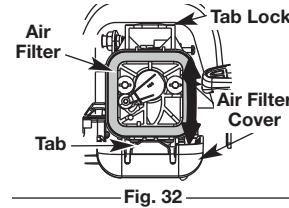

Fig. 32
- Open the air filter cover. Push the locking tab on the top of the cover inward, then pull the air filter cover out and down. (Fig. 32).
- Remove the air filter (Fig. 32).
- Reinstall the air filter cover. Position the slots on the bottom of the air filter cover onto the tabs at the bottom of the back plate (Figs. 32).
- Swing the cover up until the tab on the air filter backplate snaps into place in the slot on the air filter cover (Fig. 32).